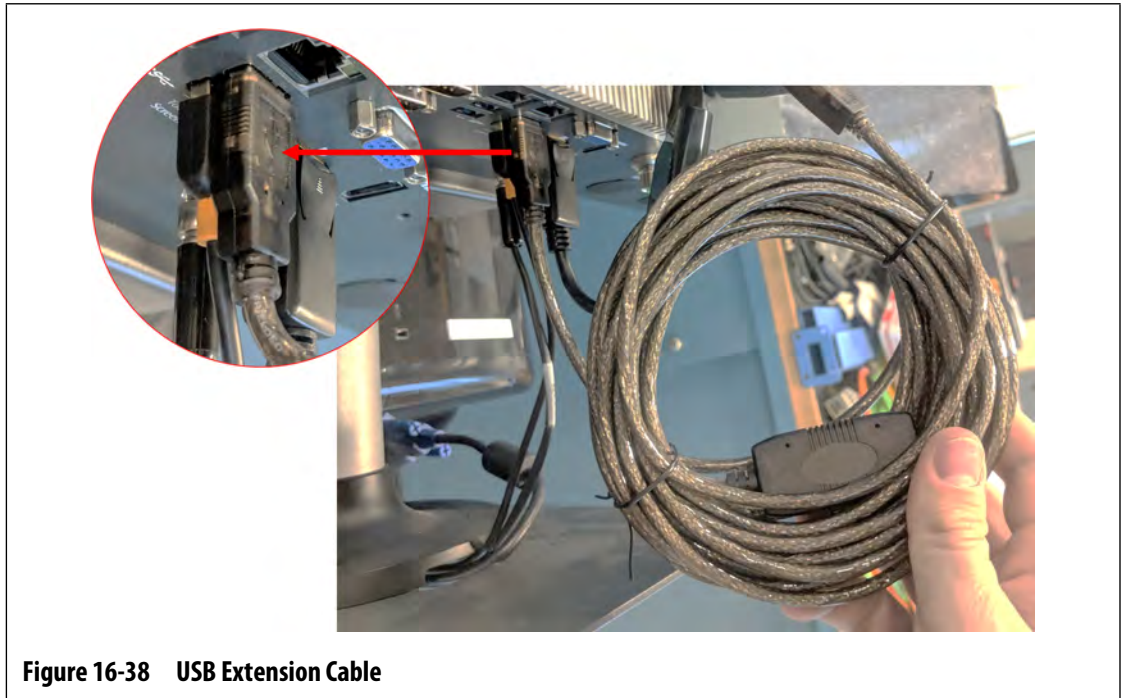

Figure 16-38 USB Extension Cable
4. Connect the USB Extension cable (USB Type A connector end) to one of the available USB ports on the bottom of the MCU enclosure. Refer to Figure 16-38.